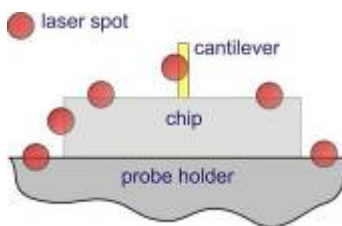

Fig. 2-7
- b. The image of the laser spot is distorted. The beam partly hits against some part of the design or the cantilever (Fig. 2-7). It should be noted that quite a variety of images is possible (as, for instance, in Fig. 2-7);